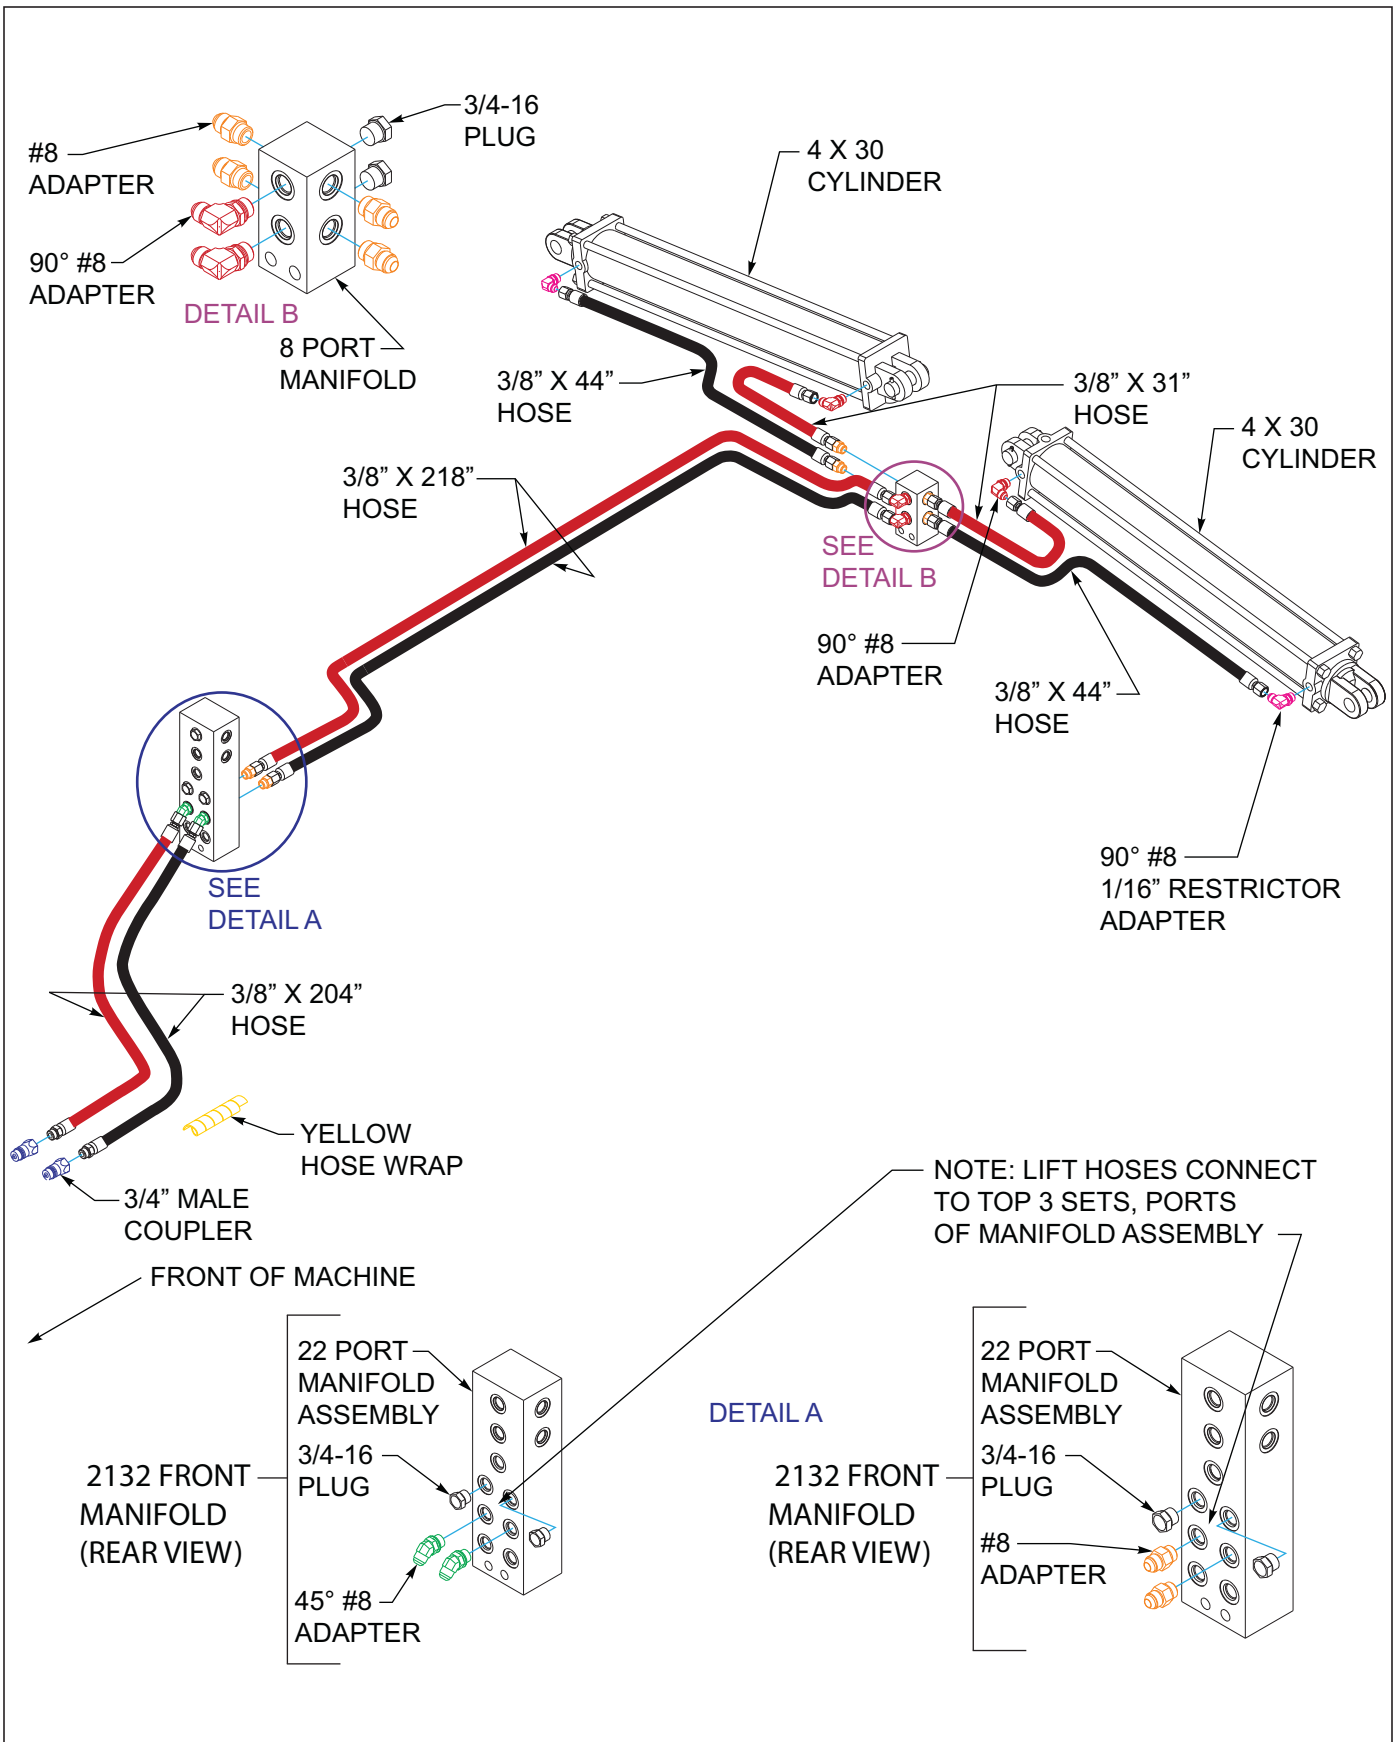
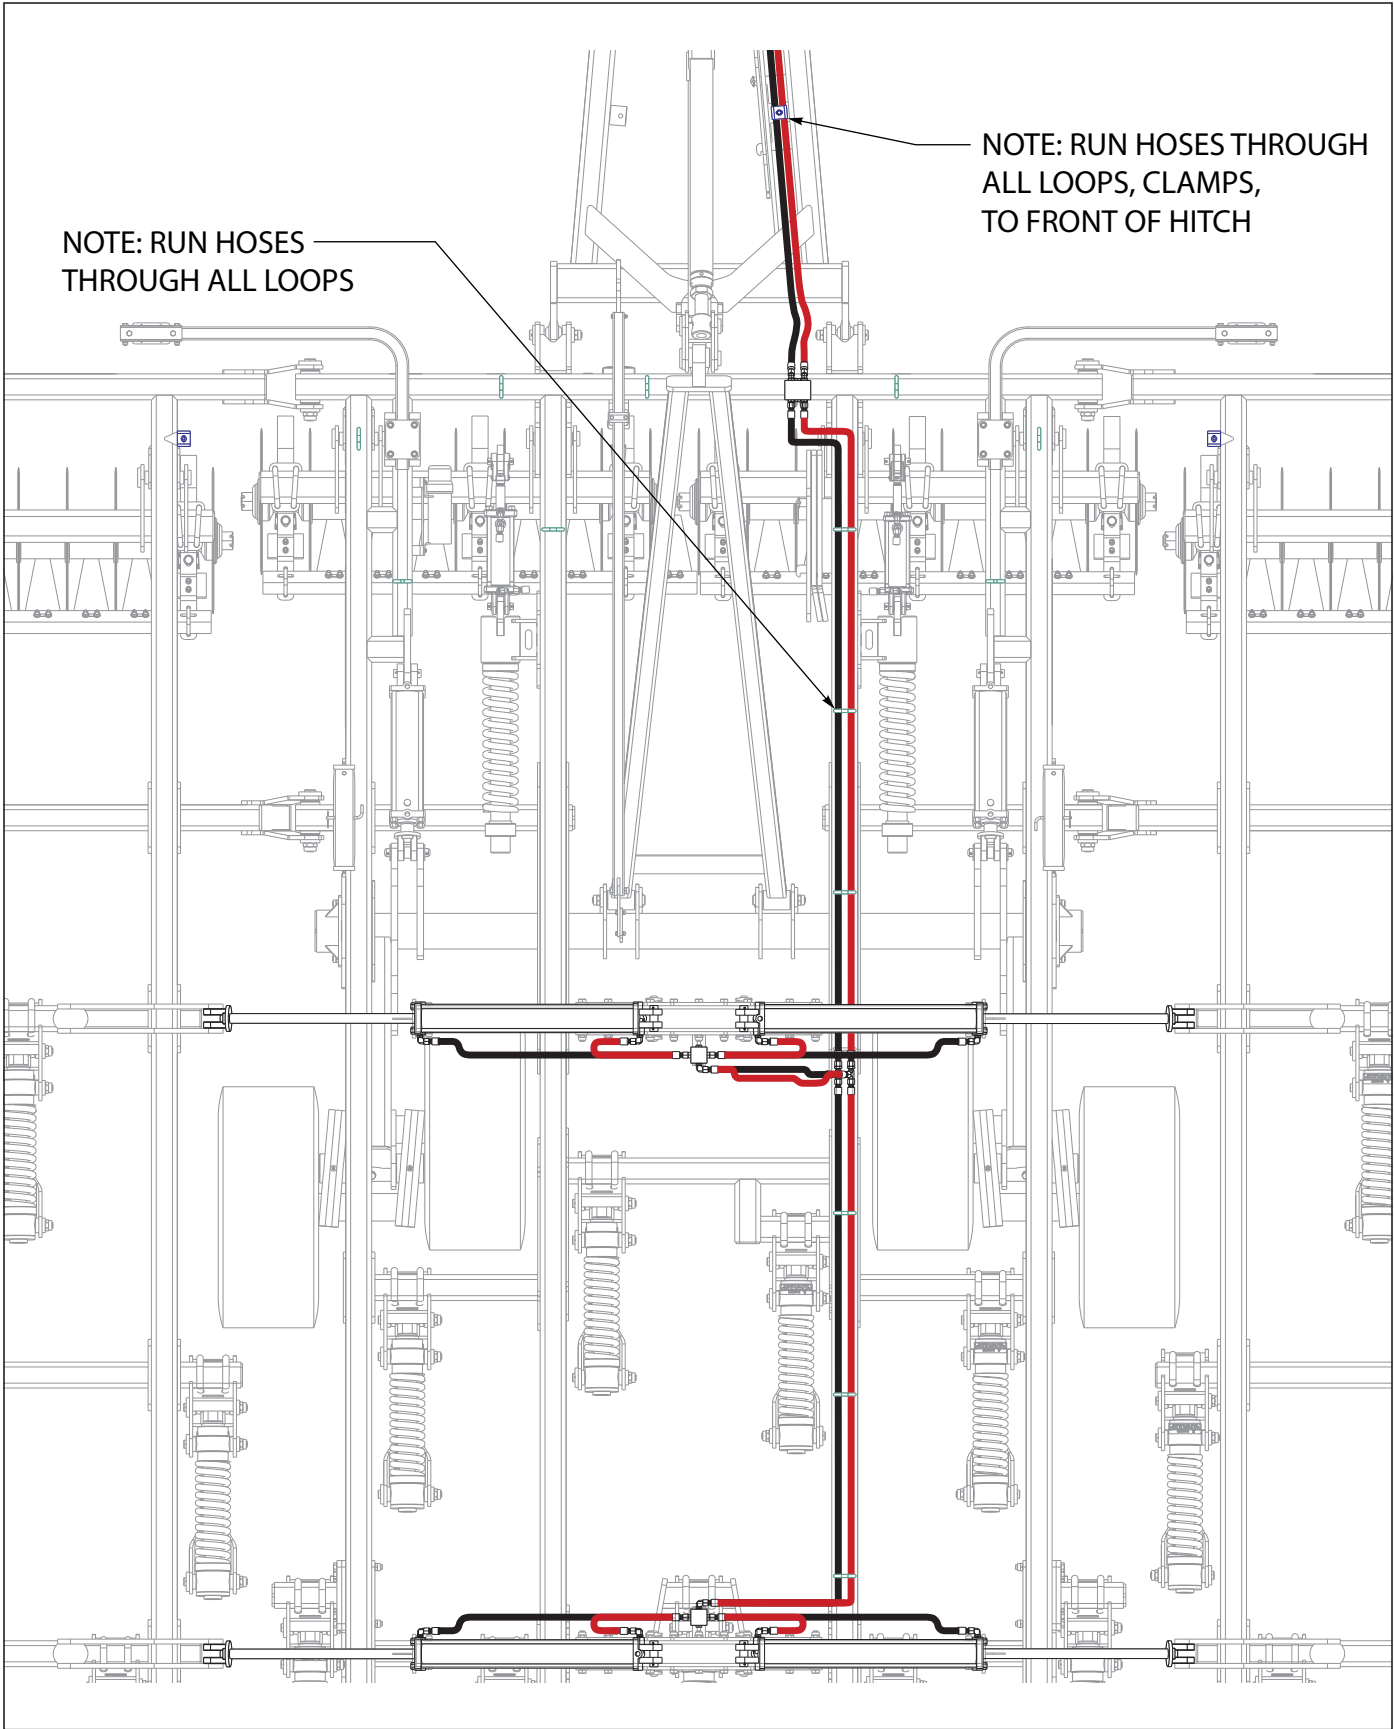
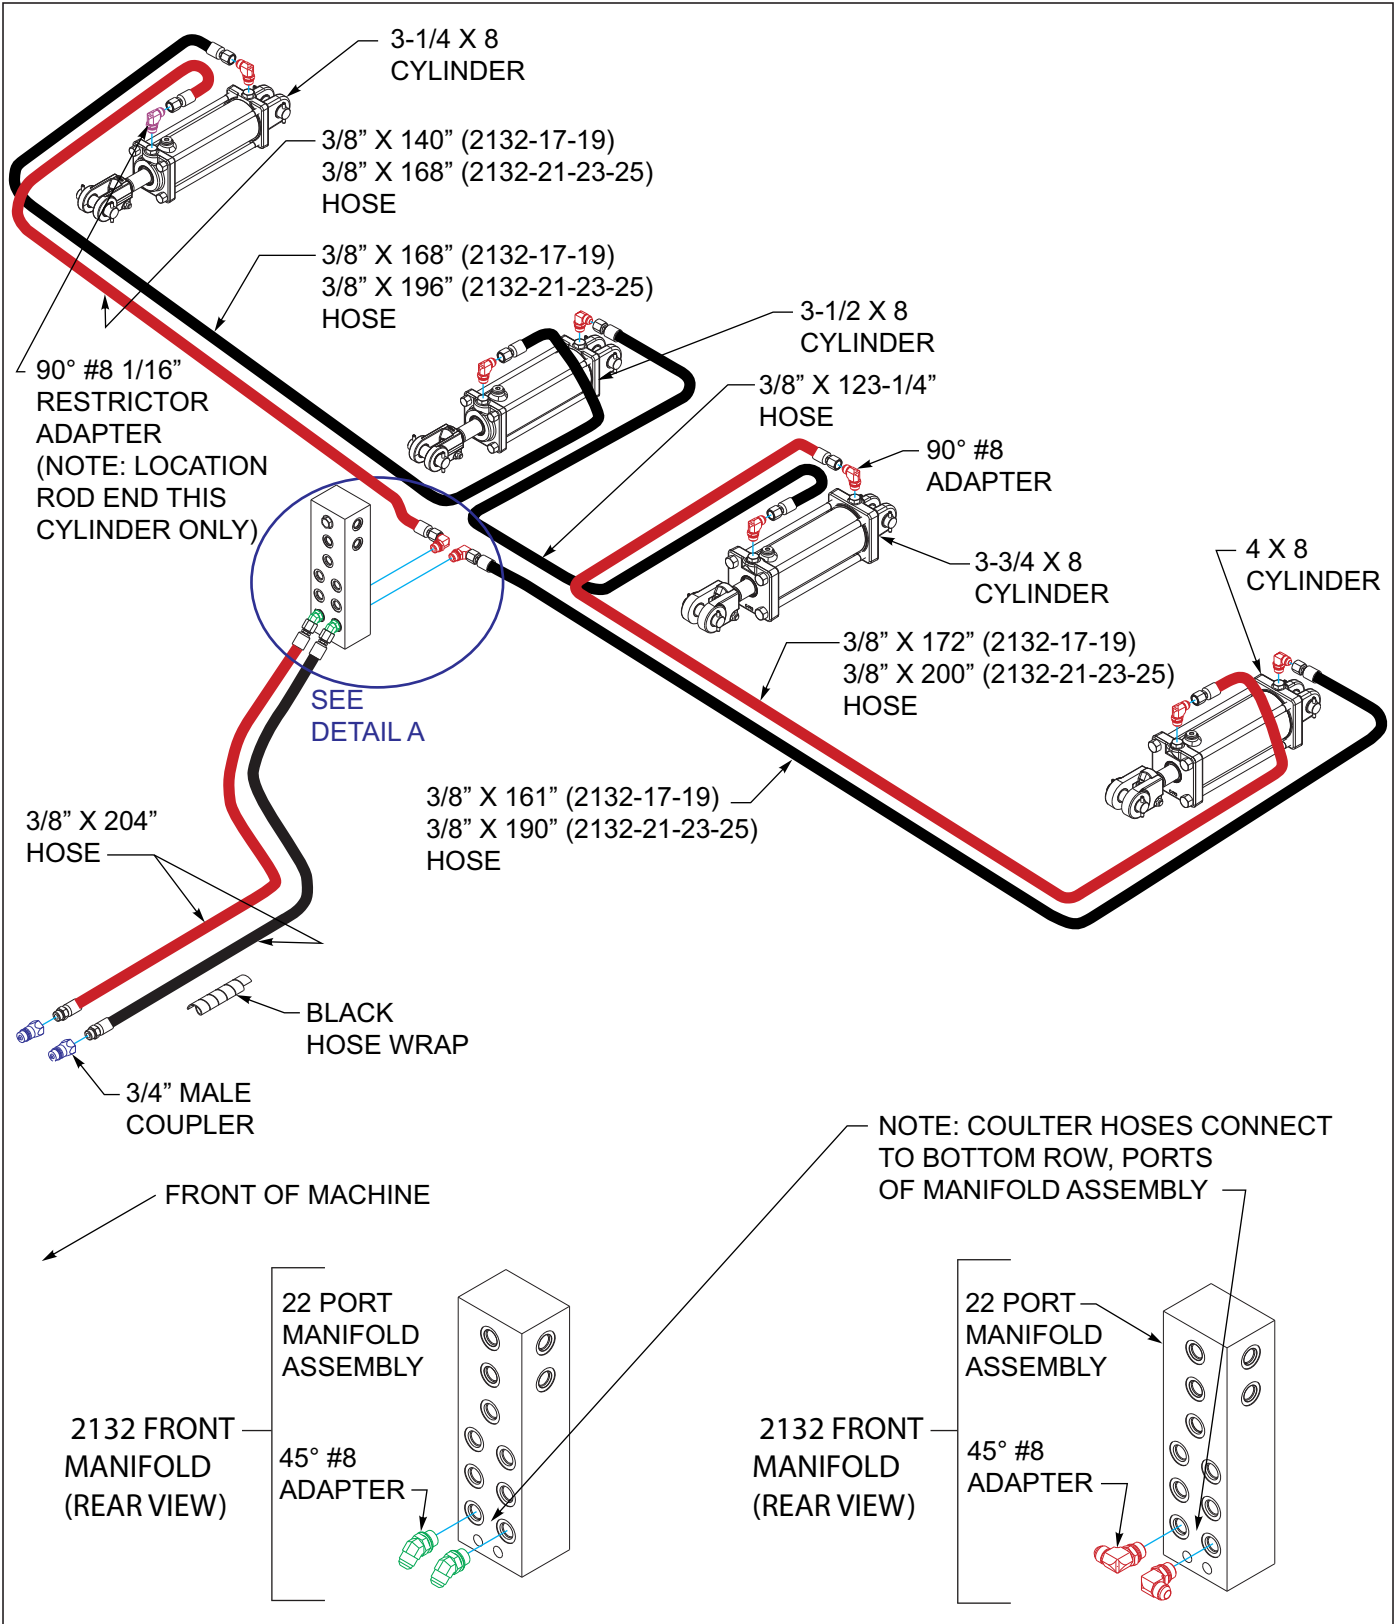

Figure 3-13: Fold Hydraulic Installation 2132-17-19'
Figure 3-16: Fold Hydraulic Layout 2132-21-23-25
Figure 3-17: Coupler Gang Hydraulic Installation
2. *See Figures 3-13* through *See Figures 3-16* for fold hydraulic installation.
4. *See Figures 3-17* through *See Figures 3-16* for coultter gang hydraulic installation.